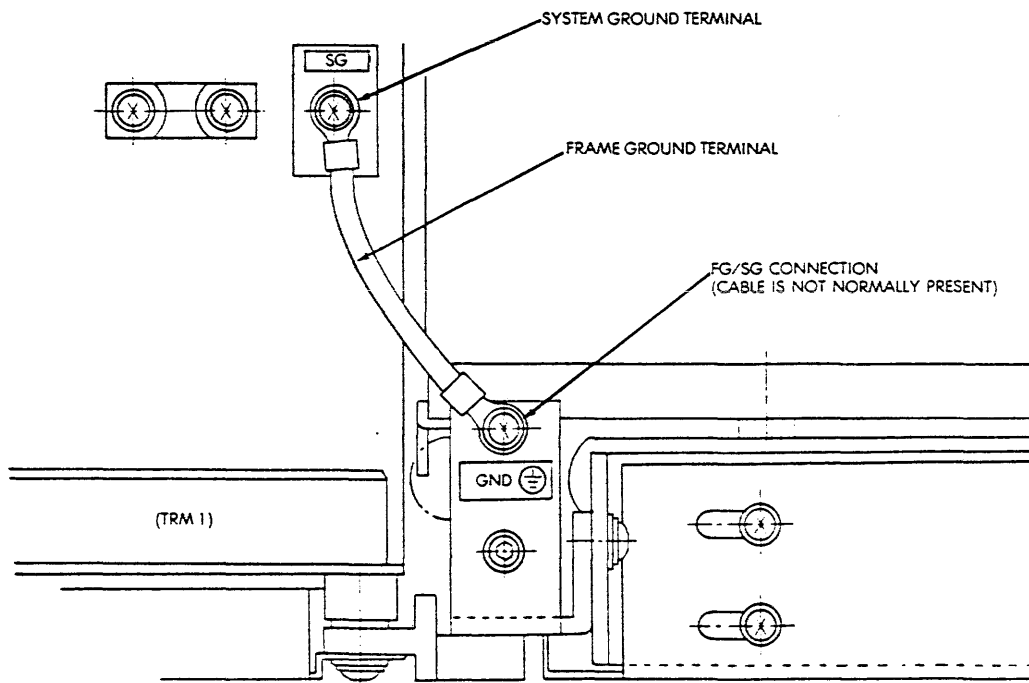

Figure 7-5. SI 9798 Drive Ground Terminal
1. **Drive Ground** The frame ground (FG) and the signal ground (SG) within the drive are separated. If the system requires FG and SG to be connected, attach the grounding cable between SG and the ground terminal (GND) (see Figure 7-5). If the system requires a ground between the system and the drive, attach the ground conductor to the GND terminal on the drive.